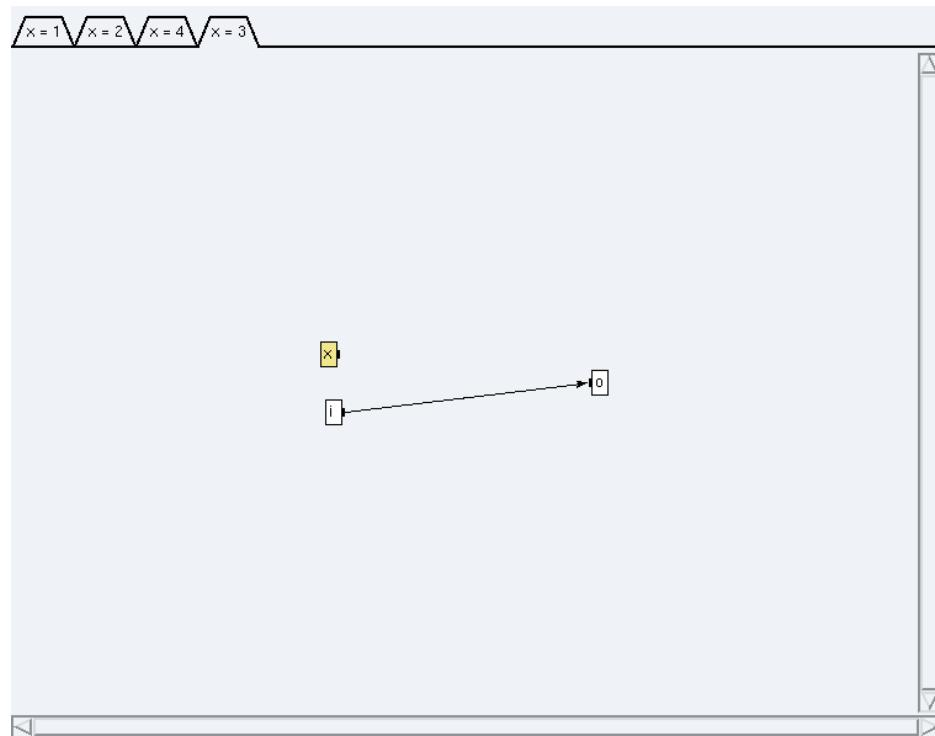

Figure 5.4: Condition $x=3$
- * click on the condition **x=3** (*cf. figure 5.4*) and connect the port `i` to the port `o`,